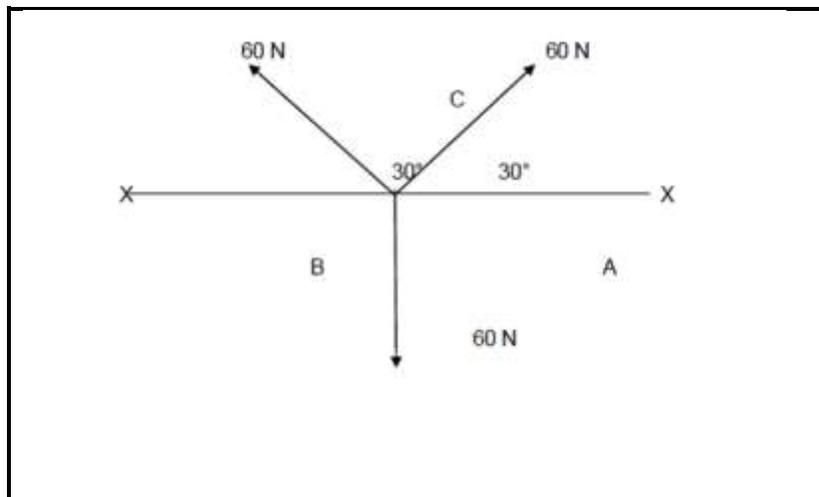

FIGURE 4.2
4.2 FIGURE 4.2 shows a system of forces acting on the same point. Use Bow's notation to construct a space diagram, depicting the lines of action and direction of all the forces in the system.